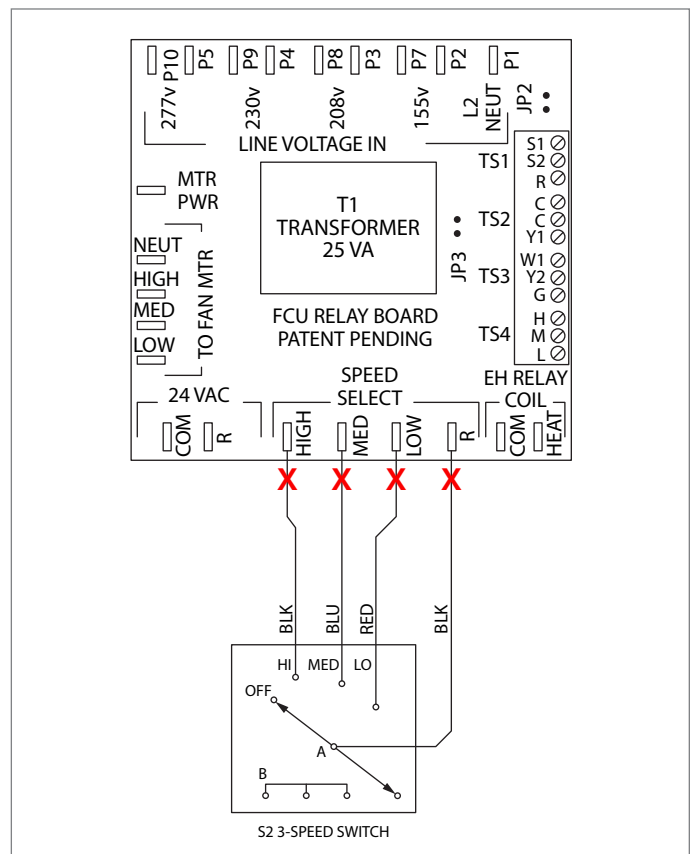

Figure 9 – Removing speed select jumper on unit with unit mounted 3-speed switch
- b. If unit has unit mounted 3-speed switch. (See Figure 9.)